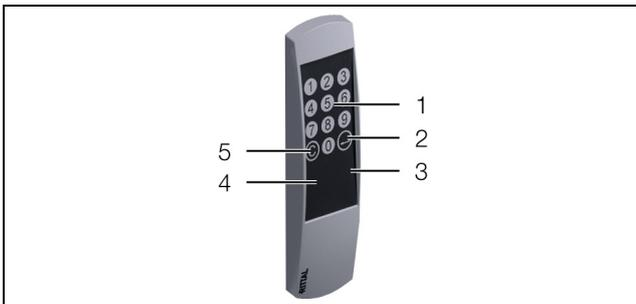

Fig. 4: Front of the coded lock
Two LEDs for the status display are integrated into the front of the coded lock (fig. 4, item 3 and item 4).